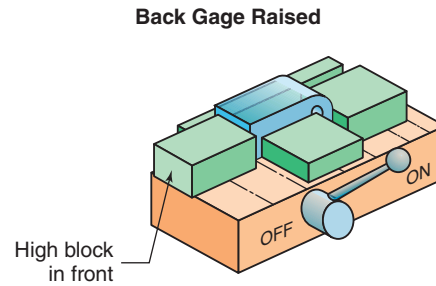

Figure 13-88 Problem 17.
17. First the block needs to be revolved 180° so the front can be blocked high (Fig. 13-88). Blocking needs to be placed on all four edges. Alternately, the back gage could be raised for the back stop, as shown. As an added measure of safety, a C-clamp could be added across the end stop blocks as long as it doesn't interfere with the surface grinder. You probably ought to turn on the magnet too!